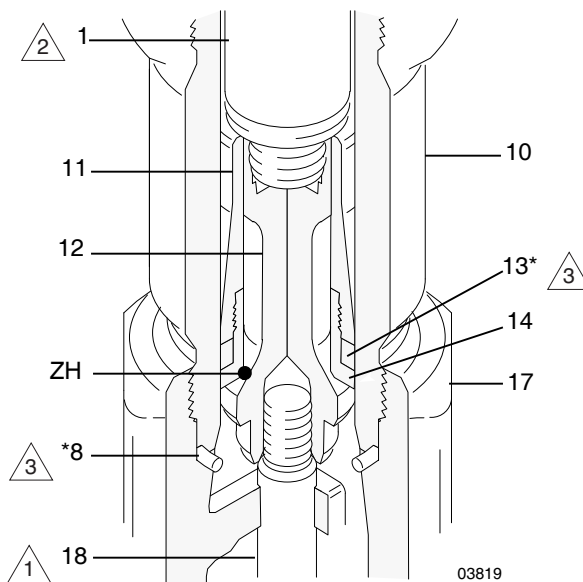

FIG. 10 Piston Check Valve Detail
10. Remove the seal (8) from the bottom of the cylinder (10). Shine a light into the cylinder to examine the inside surface for scoring or damage. Refer to FIG. 10, page 17.
11. **If the cylinder is damaged, or there is evidence of leaking around the top cylinder seal (8):** unscrew the cylinder from the outlet housing with a pipe wrench. Remove the top cylinder seal.
12. Place the flats of the displacement rod (1) in a vise. Unscrew the piston (12) from the displacement rod. The priming piston rod (18) will release as well. Slide the piston guide (11) and seat (14) off the piston (12). Refer to FIG. 10, page 17.
1 Piston check valve (see Fig. 10).